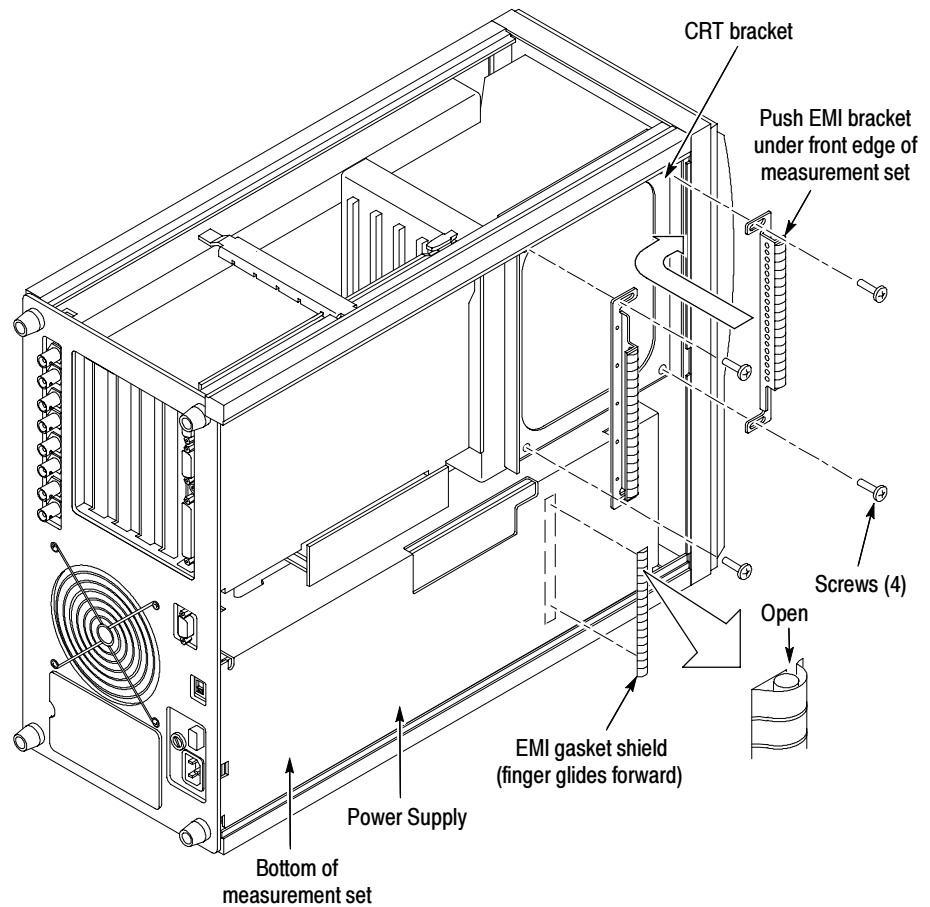

Figure 10: EMI Brackets and EMI gasket shield installation
1. Position the measurement set on its left side with the bottom facing you and locate the CRT bracket as shown in Figure 10.
4. Align the first EMI bracket to the CRT bracket holes as shown in Figure 10. Push the EMI bracket forward and under the front edge of the measurement set as shown in Figure 10. Attach and tighten the two screws.
6. Align the second EMI bracket to the CRT bracket holes as shown in Figure 10. Attach and tighten the two screws.
7. Align the EMI gasket shield directly below the left EMI bracket as shown in Figure 10.
8. Reposition and attach the adhesive-backed EMI gasket shield with the copper fingers facing toward the front of the instrument as shown in Figure 10. Press firmly on the EMI gasket shield.